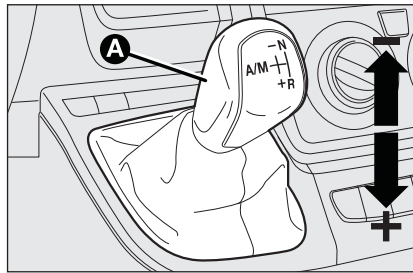
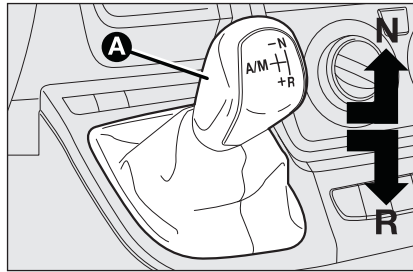
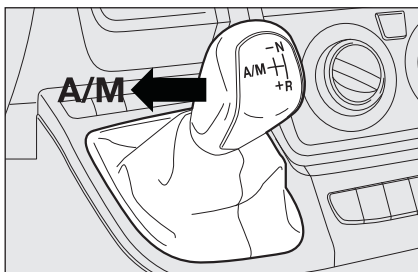

fig. 1
fig. 2
fig. 3
The gearbox consists of a conventional manual transmission equipped with a lever **A-fig. 1**, to which has been added an electronically-controlled hydraulic device that controls the clutch and gear shifts automatically.
- Push the gear lever towards **+** (shift up) **fig. 1** to engage first gear (if starting from **N** or **R** simply move the lever to the central position) or **R fig. 2** to engage reverse.
- When driving, push the gear lever towards **(+)** **fig. 1** to engage a higher gear or towards **(-)** **fig. 1** to engage a lower gear.
- Push the gear lever to **A/M** **fig. 3**, to engage automatic mode **+** (higher gear) **fig. 1** to engage the first gear, if starting from **N** or **R** move the lever to central position **R** **fig. 2** to engage reverse.
Control lever **A-fig. 1**, on the central tunnel is a floating multistable lever, i.e. it can take up three stable positions and three unstable positions.
The three stable positions correspond to neutral **N-fig. 2**, reverse **R-fig. 2** and the central position between the unstable positions **(-) and (+) fig. 1**.
The unstable positions, i.e. positions left by the lever as soon as it is released, are upshift request **(+)**, downshift request **(-)** and automatic mode request **(A/M) fig. 3**.
shift the lever to **(+)** position **fig. 1** to engage a higher gear;
shift the lever to **(-)** position **fig. 1** to engage a lower gear.
to engage/release automatic mode (**AUTO**) press the lever to **A/M** position **fig. 3**; activation is indicated by the message **AUTO fig. 5** and the gear engaged appearing on the reconfigurable multifunction display.
- with the lever in (N) or (R) shift the lever to central position;
- with the lever already in central position, move the lever toward + (higher gear) **fig. 1**;
- with the lever in (N) or (R) **fig. 2** move the lever to central position and then towards + (higher gear) **fig. 1**;
- with the lever already in central position, move the lever twice toward + (higher gear) **fig. 1**;
- Shift the lever to (R) **fig. 2**;